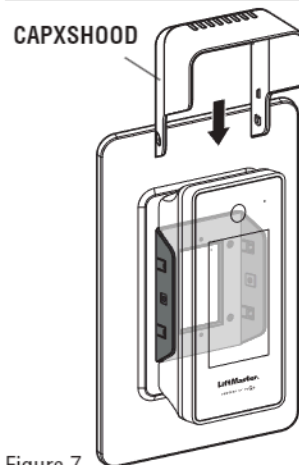

Figure 7
3. Place the CAPXS Hood. The side detent will fit into the Mounting Bracket recesses. (See Figure 7)